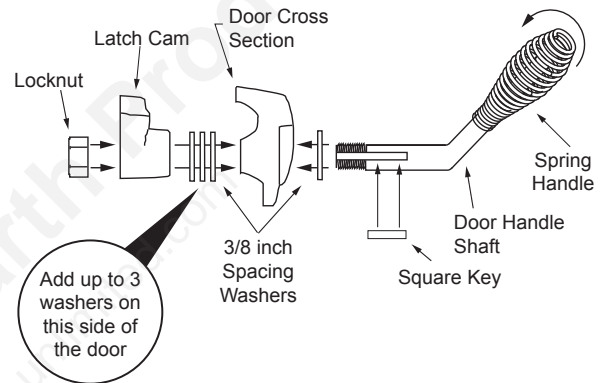

Figure 24.3
3. Add up to three washers as shown in **Figure 24.3** on the inside of the door.
7. Install handle turning in a counter-clockwise motion to desired location on door handle rod (**Figure 24.3**).